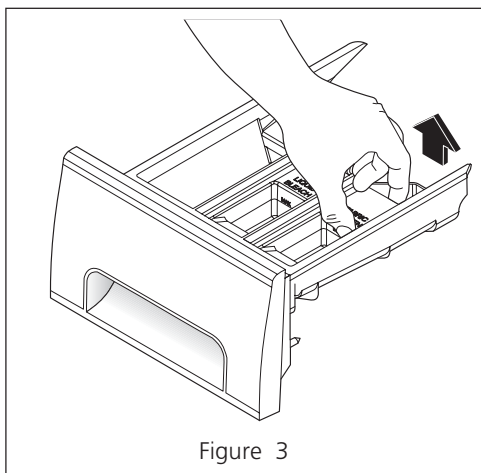

Figure 3
- Remove the inserts from the bleach and fabric softener compartments. (Figure 3)